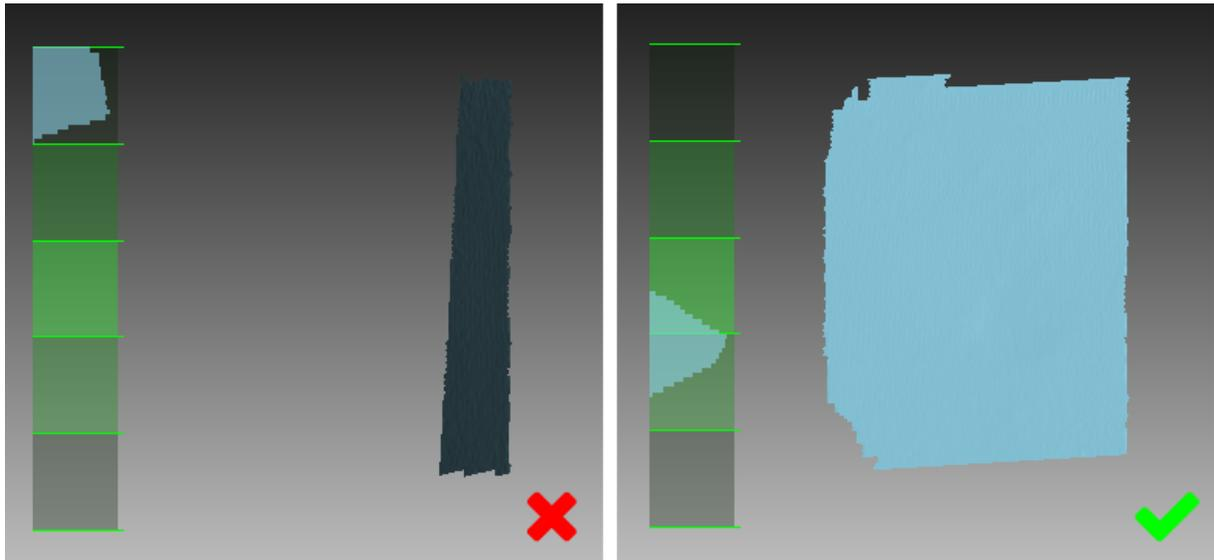

Figure 27: Scanner orientation and reconstructed surfaces.
- Maintain the scanner orientation in such a way that the field of view is sufficiently filled with surfaces (see Figure 27)